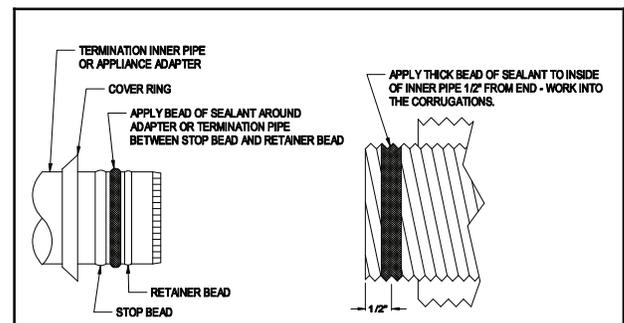

Figure 23
5. Remove all oil and grease from end of termination inner pipe or appliance adapter, and apply a bead of sealant to between the stop bead and retainer bead (Figure 23).
6. Apply a thick bead of sealant to inside of inner vent pipe $\frac{1}{2}$ " from the end of pipe, working the sealant into the corrugations (Figure 23).